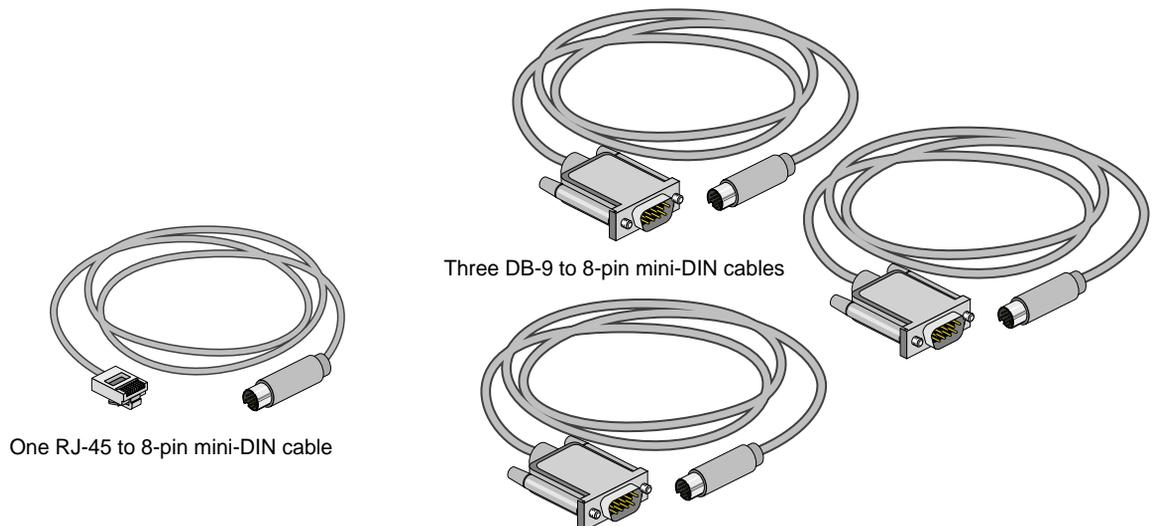

Figure 5-19 Items Needed to Connect an SGI 2400 or SGI 2800 Server to an SGIconsole
5. Make sure that you have the following items as shown in Figure 5-19: